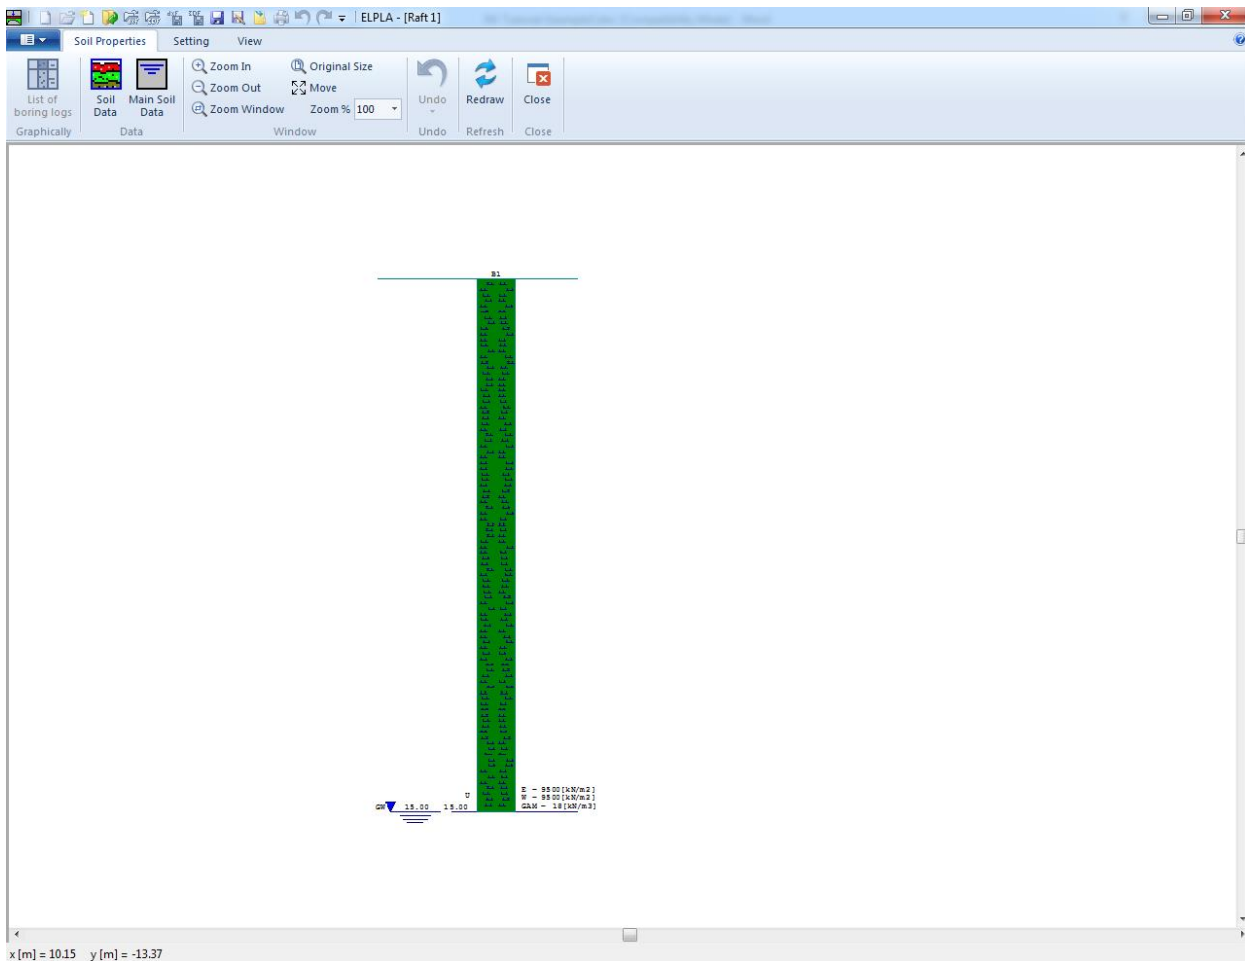

Figure 3.19 Boring log
After the user has completed the definition of all soil properties and parameters, the screen should look like the following Figure 3.19.
- Choose "Save" command from "File" menu in Figure 3.19 to save the data of the boring log
- Choose "Close" command from "File" menu in Figure 3.19 to close "Soil Properties" Window and to return to the main window